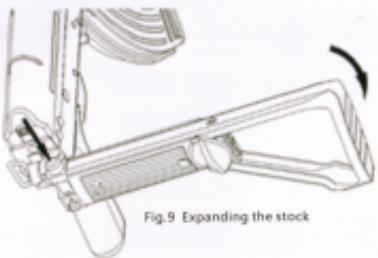

Fig. 9 Expanding the stock
3.6.2 When expanding the stock, press down the clamp of the stock first, then turn the stock backward to its position (See fig. 9)